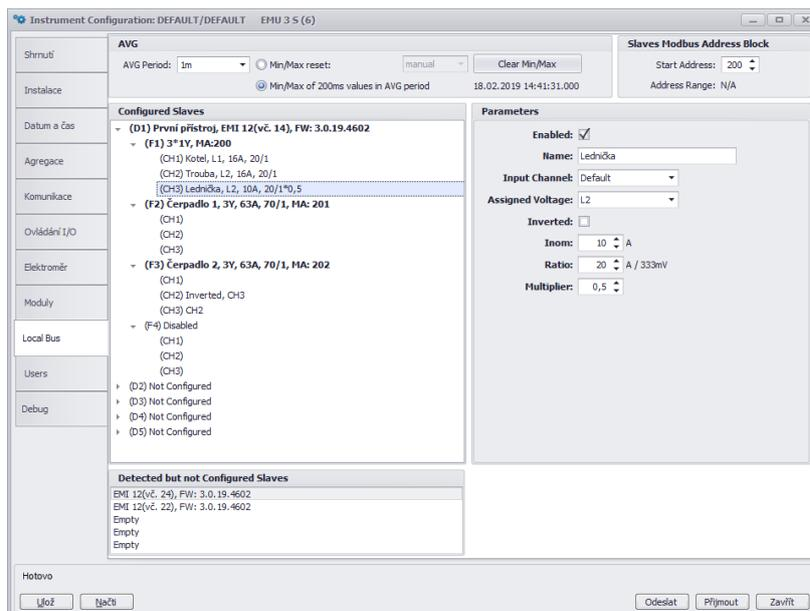

Figure 5: ENVIS.Daq — Local bus tab for EMI 12 modules configuration for branch circuit measurement.
- 2.4.1 Local bus (fig. 5) 8
2.4.1 Local bus (fig. 5)